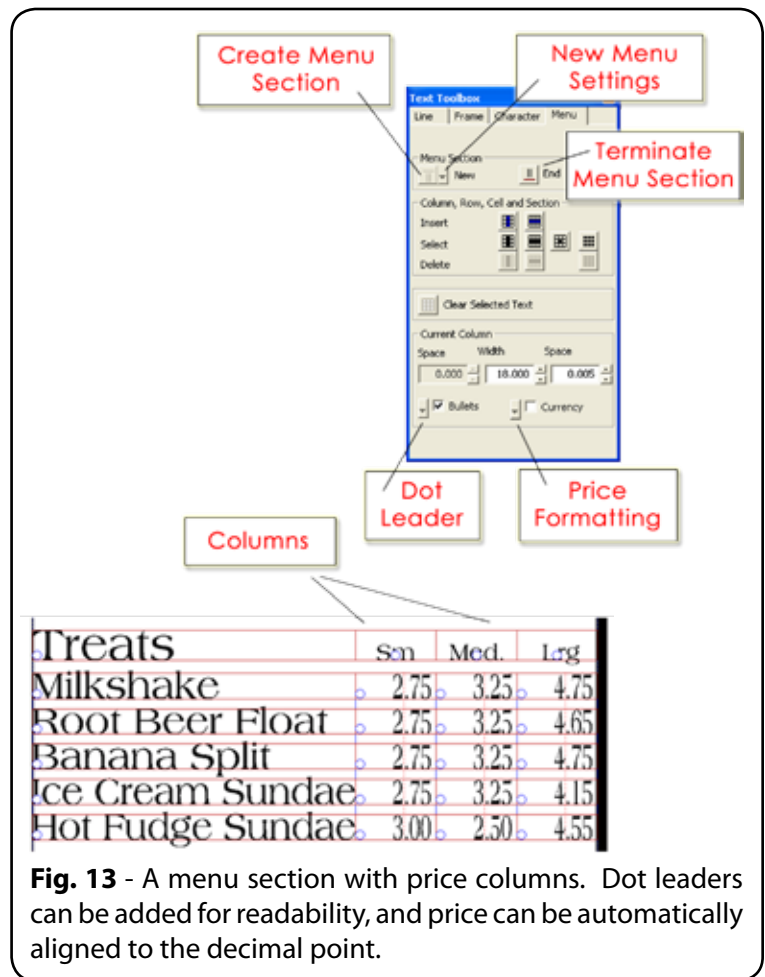

Fig. 13 - A menu section with price columns. Dot leaders can be added for readability, and price can be automatically aligned to the decimal point.
- **Easy Menu Board Creation** - As part of the new Text Compose interface, interactive tools have been introduced for constructing menu boards, where individual menu sections (Fig. 13) can be placed and resized with ease.
- **Text Toolbox in Text Compose** - The Text Compose interface has been improved by grouping features into tabs of the Text Toolbox (Fig. 13).